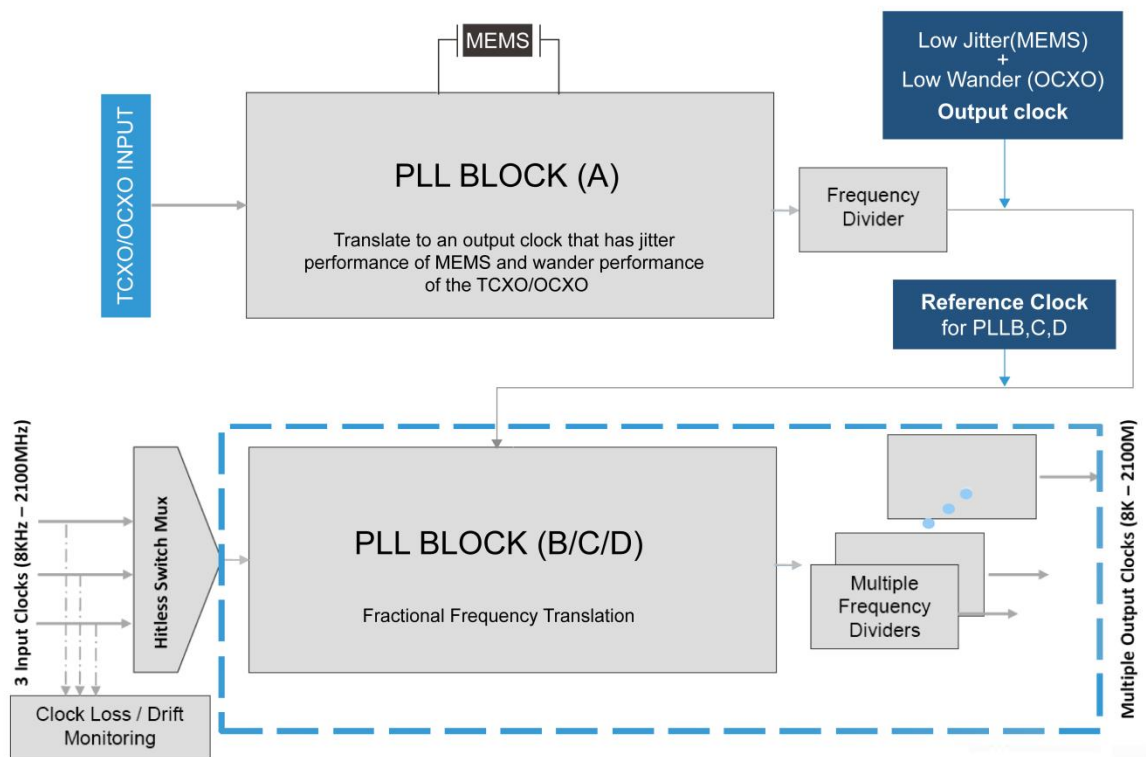

Figure 34. SiT95145 Low Wander Mode implementation diagram
A Low Wander Mode (LWM) is the mode that combines the best jitter from TCXO/OCXO MEMS resonator clocks. This dual loop PLL configuration leverages the lower TCXO/OCXO close-in phase noise (PN) with the lower further out PN of the embedded MEMS resonator. The LWM implementation is shown in Figure 34, in which PLLA generates a low wander reference for the rest of the PLLs. Any or all PLLs B, C, D can operate in LWM. Wander on the input clocks to any of the 3 PLLs is attenuated with PLL bandwidth (BW) set to less than 10 Hz.